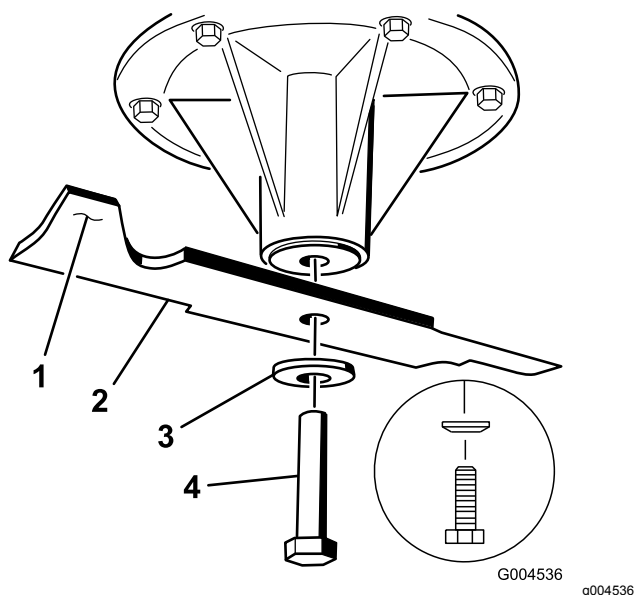

Figure 98
1. Install the blade onto the spindle shaft (Figure 98).
2. Install the spring disk and blade bolt (Figure 98).
**Note:** The spring-disk cone must be installed toward the bolt head (Figure 98).